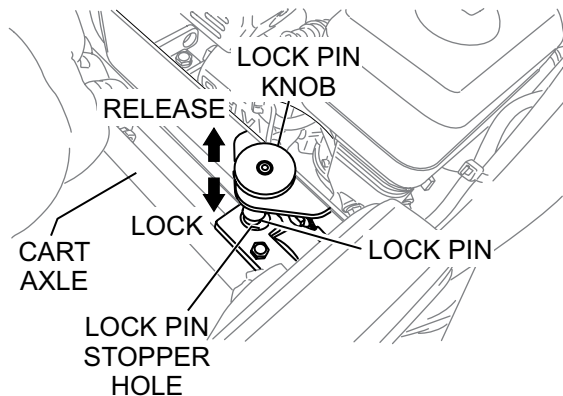

Figure 5. Lock Pin Adjustment
- Grab hold of the lock pin knob (Figure 5) and pull upwards (unlocked position).